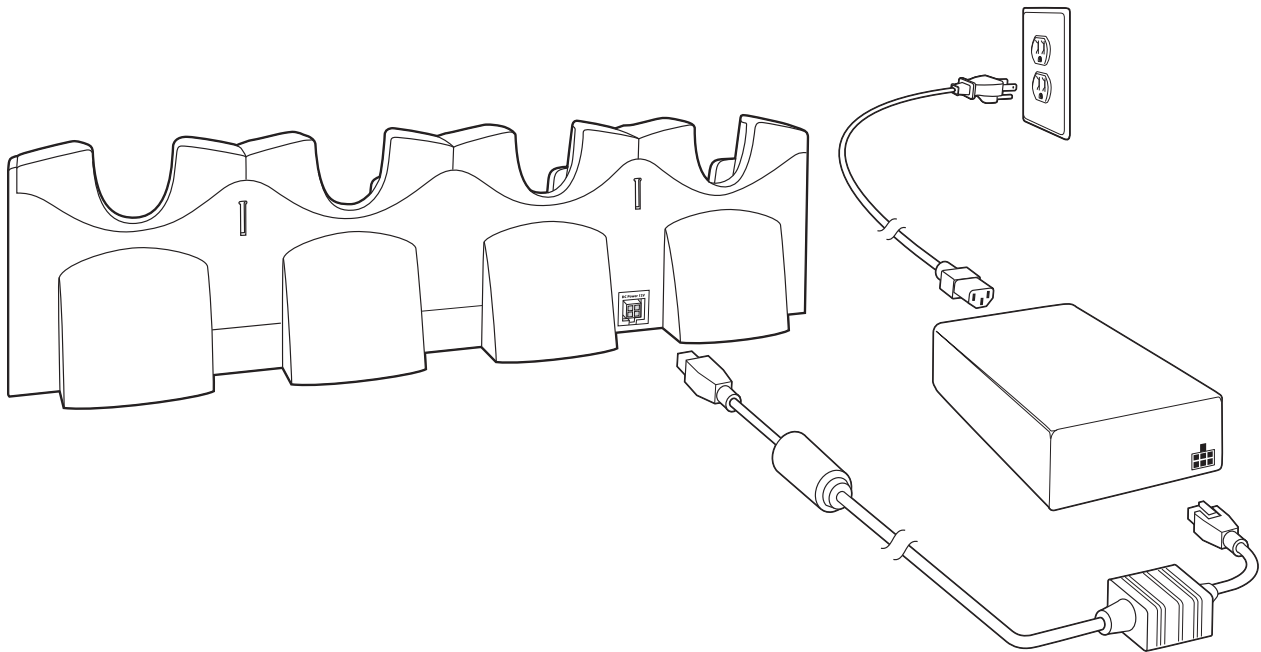

Figure 2-13 Four Slot Charge Only Cradle Connection
5. Connect power (see Figure 2-13 on page 2-14). The power supply should be located in the power supply well.